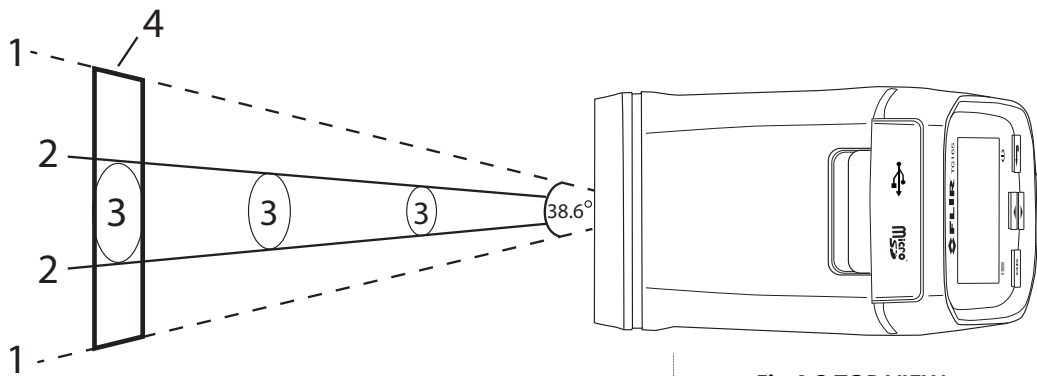

Fig 4-2 TOP VIEW
- Fig 4-2 shows a top view where the two dashed lines (1) represent the left and right (horizontal) boundaries of the IR Image field of view (38.6°).
- In Fig 4-2 the two solid lines (2) represent the IR Thermometer field of view.
- In Fig 4-2 the ellipses (3) represent the IR Thermometer's measured spot diameter.
- In Fig 4-2 the laser pointers (2) frame the spots (3). In Fig 4-3 the lasers' plane (2) is shown as one line instead of two (since the lasers are on the same plane when viewed from the side).